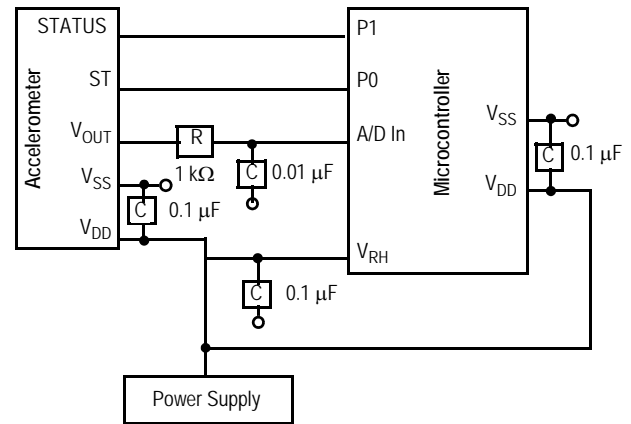

Figure 5. Recommend PCB Layout for Interfacing Accelerometer to Microcontroller
- Place a ground plane beneath the accelerometer to reduce noise, the ground plane should be attached to all of the open ended terminals shown in Figure 5